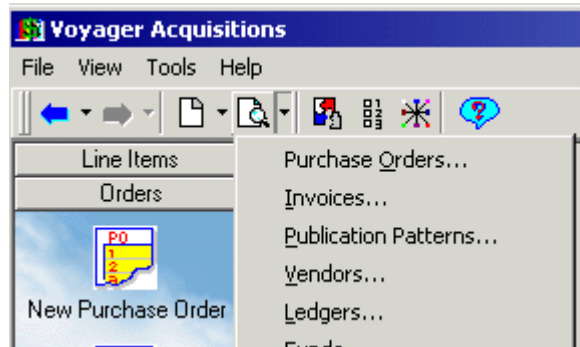

Figure 2-1. Search button drop-down list
- Click the down arrow beside the **Search** button on the Acquisitions toolbar, then click the relevant search item from the drop-down list (see Figure 2-1)